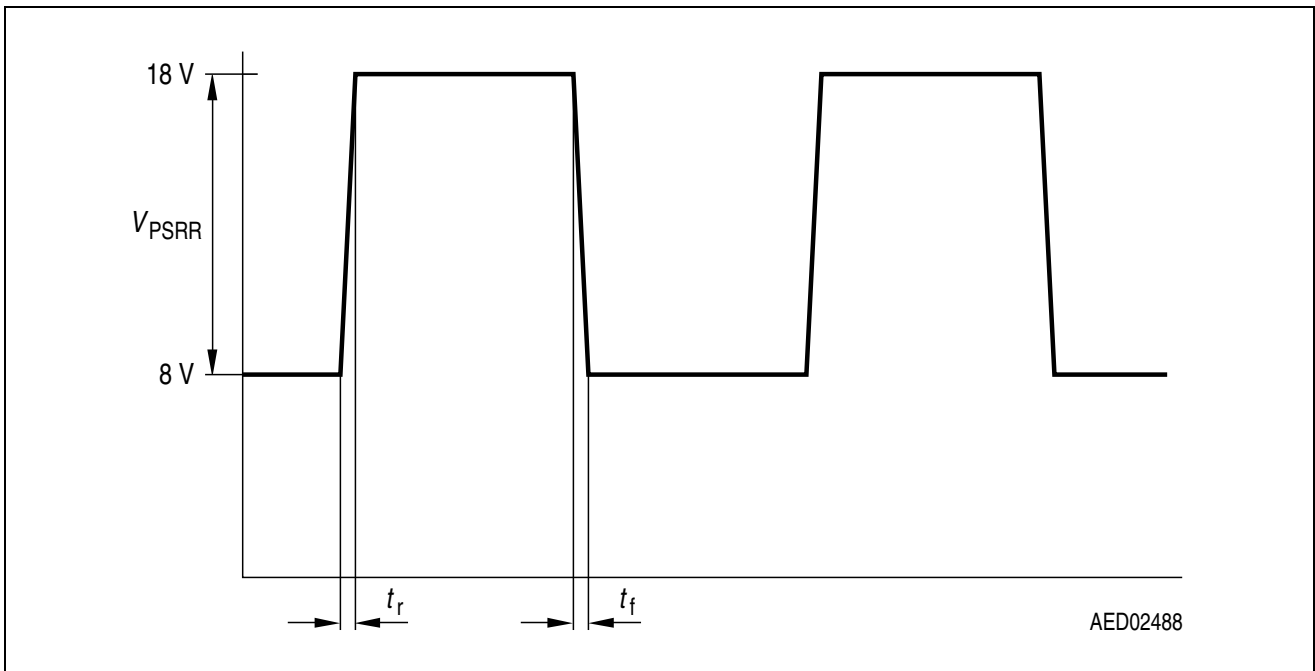

Figure 5
- 7) For definition see Figure 5.